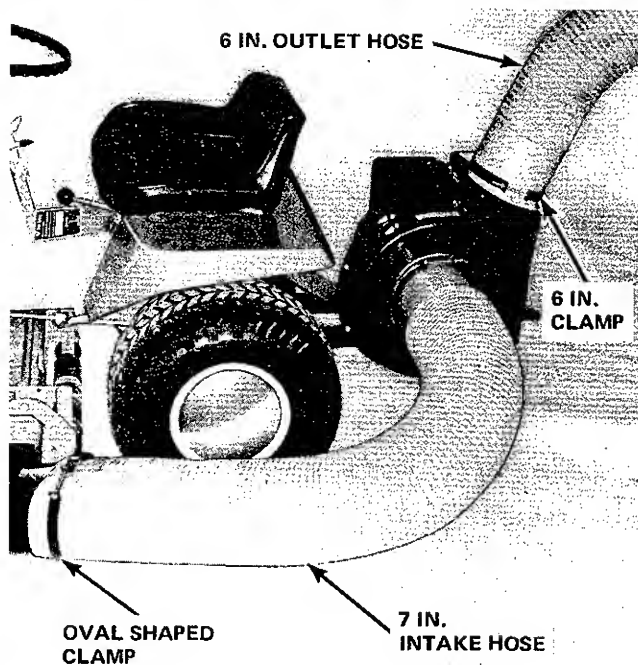

FIGURE 6
5. Attach the other end of the 7 in. hose to the mower adapter using the oval-shaped clamp with 1/4-20 x 3 in. machine screw, lockwasher and nut. Place the 6 in. clamp around the outlet hose end loosely. Slide the hose end down over the blower deflector against the blower housing. Tighten the clamp screw securely. (See Figure 6).